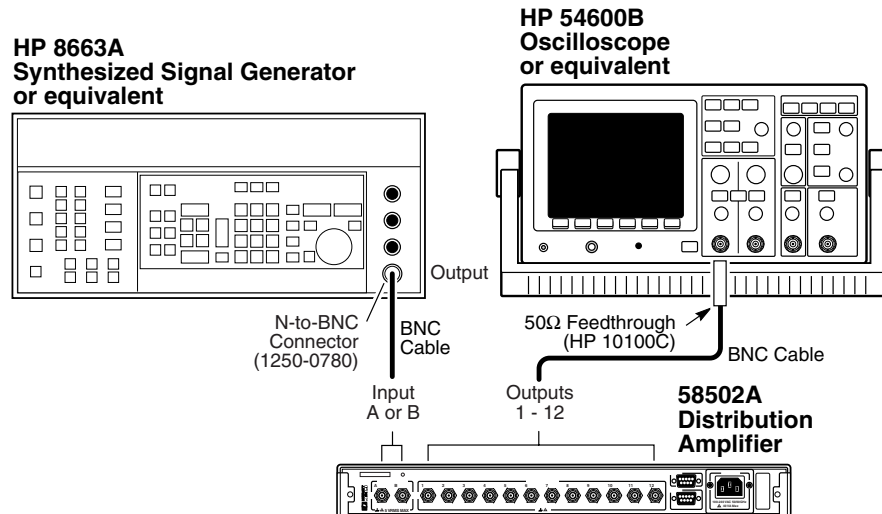

Figure 2-1. Operational Verification Setup
- 3 Connect the equipment as shown in Figure 2-1. (Connect the Signal Generator output to the 58502A's input **A** or **B** rear-panel input, and connect oscilloscope Channel 1 to output **1** port of the 58502A.